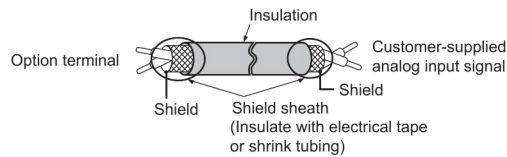
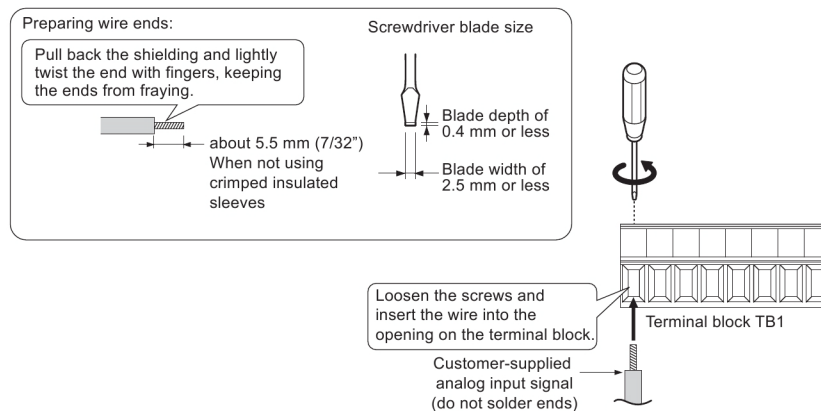

Figure 8: Preparing Ends of Shielded Cable
Figure 9: Preparing and Connecting Cable Wiring
5. Prepare and connect the wire ends as shown in Figure 8 and Figure 9. Refer to Wire Gauges, Tightening Torques, and Crimp Terminals on page 18 to confirm that the proper tightening torque is applied to each terminal. Take particular precaution to ensure that each wire is properly connected and wire insulation is not accidentally pinched into electrical terminals.